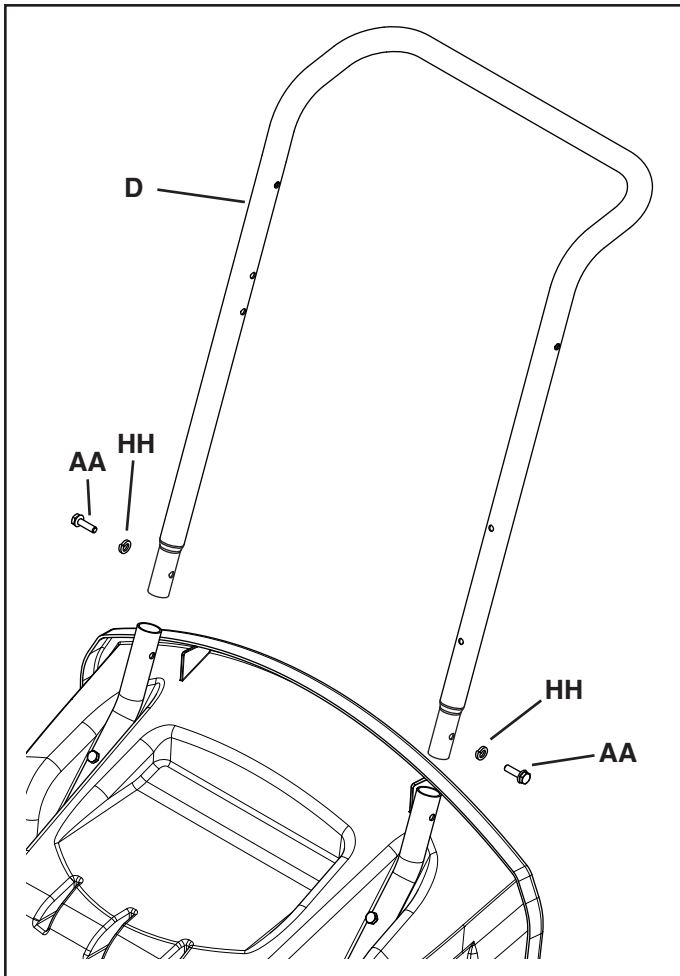

FIGURE 4
STEP 4: (SEE FIGURE 4)
- Assemble the handle tube (D) to the hopper tubes using two 5/16 x 3/4 screws (AA) and 5/16" lock washers (HH).